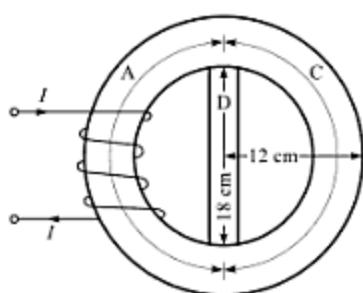

Fig. 6.16
12. A cast steel ring has an external diameter of 24 cm and a square cross-section of 3 cm side. Inside and across the ring, an iron bar of dimensions  $18 \text{ cm} \times 3 \text{ cm} \times 0.4 \text{ cm}$  is tightly fit with no air gap, as shown in Fig. 6.16. Neglecting flux leakage, determine the ampere turns required to be applied to one-half of the ring so as to produce a flux density of 1.0 T